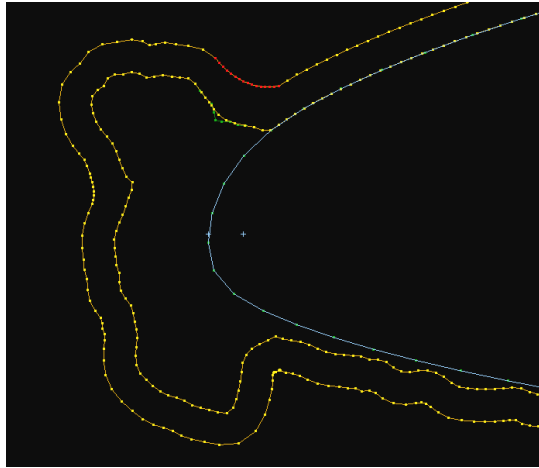

Figure 21. Subcurve on JMAX boundary of viscous sublayer after smoothing.
- Set the **Num. Control Pts** to 3. Reducing the number of control points has the effect of smoothing the curve. Press <Enter> and then **OK**. The graphics window should show an image similar to Figure 21.